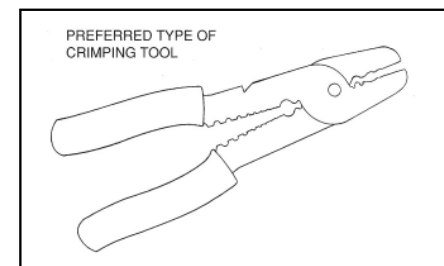

Fig. 5
- E) Install the new terminals onto the wiring if the originals were clipped off. The large terminal is the positive terminal, while the small one is the negative terminal. Verify that you are installing them properly because if they are reversed the pump will run backwards and will not pump. Strip the wire insulation back 1/4" and install the terminals. Using the illustrated preferred type of crimp tool (See Fig. 5), crimp the terminals in place. Verify that the terminals are securely attached and will not come off.